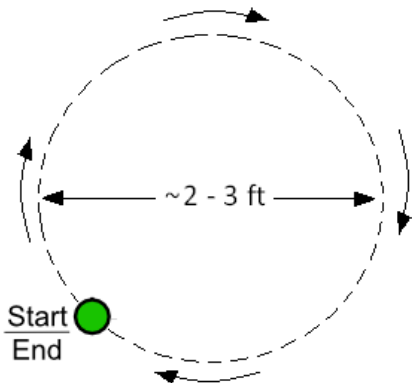

Figure 2: Circle Robot Motion
1. Write a “Circle” program to move the robot in a circle with a diameter between 2 and 3 feet (see Figure 2).